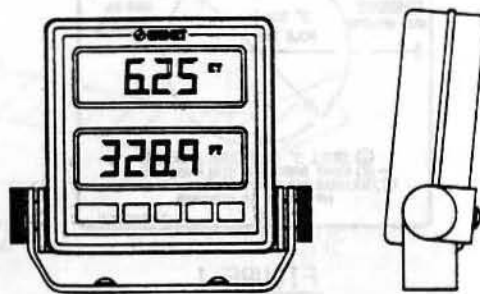

FIG. 2
6. LOCATE THE INSTRUMENT WITH THE BRACKET ATTACHED WITHIN THE STATIONARY BRACKET AND SECURE INTO PLACE WITH THE THUMB SCREWS PROVIDED (SEE FIGURE 2). ADJUST FOR PROPER VIEWING AND TIGHTEN INTO PLACE (DO NOT OVERTIGHTEN).